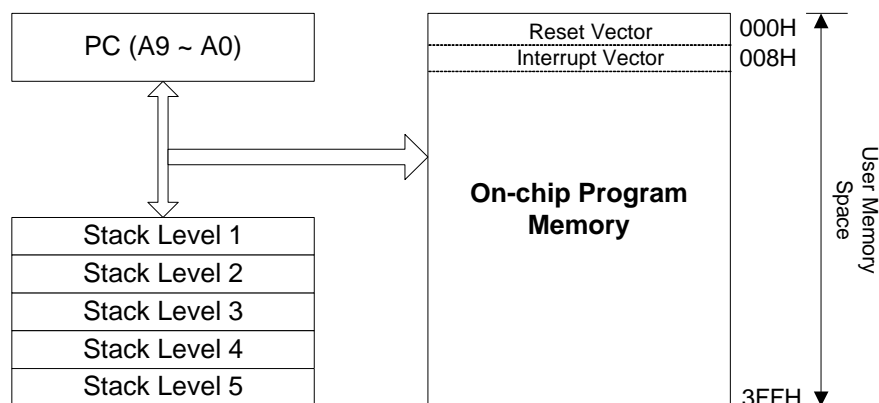

Figure 4-2 R2 (Program Counter) and Stack Organization
- Depending on the device type, R2 and hardware stack are 10-bits wide. The R2 structure is depicted in Figure 4-2 below.